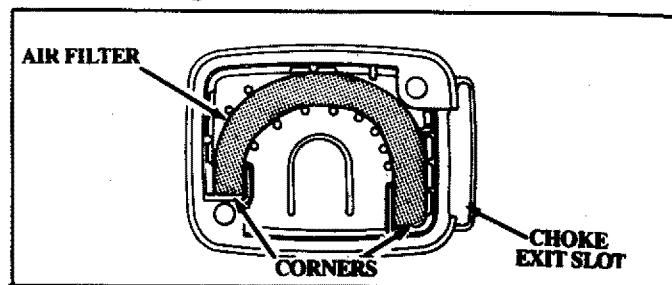

Figure 27
2. Remove the Air Filter from the Cover. Figure 27.
5. Reinstall the Air Filter Cover, making sure the Choke exit slot (Figure 27) is placed over the Choke Lever.